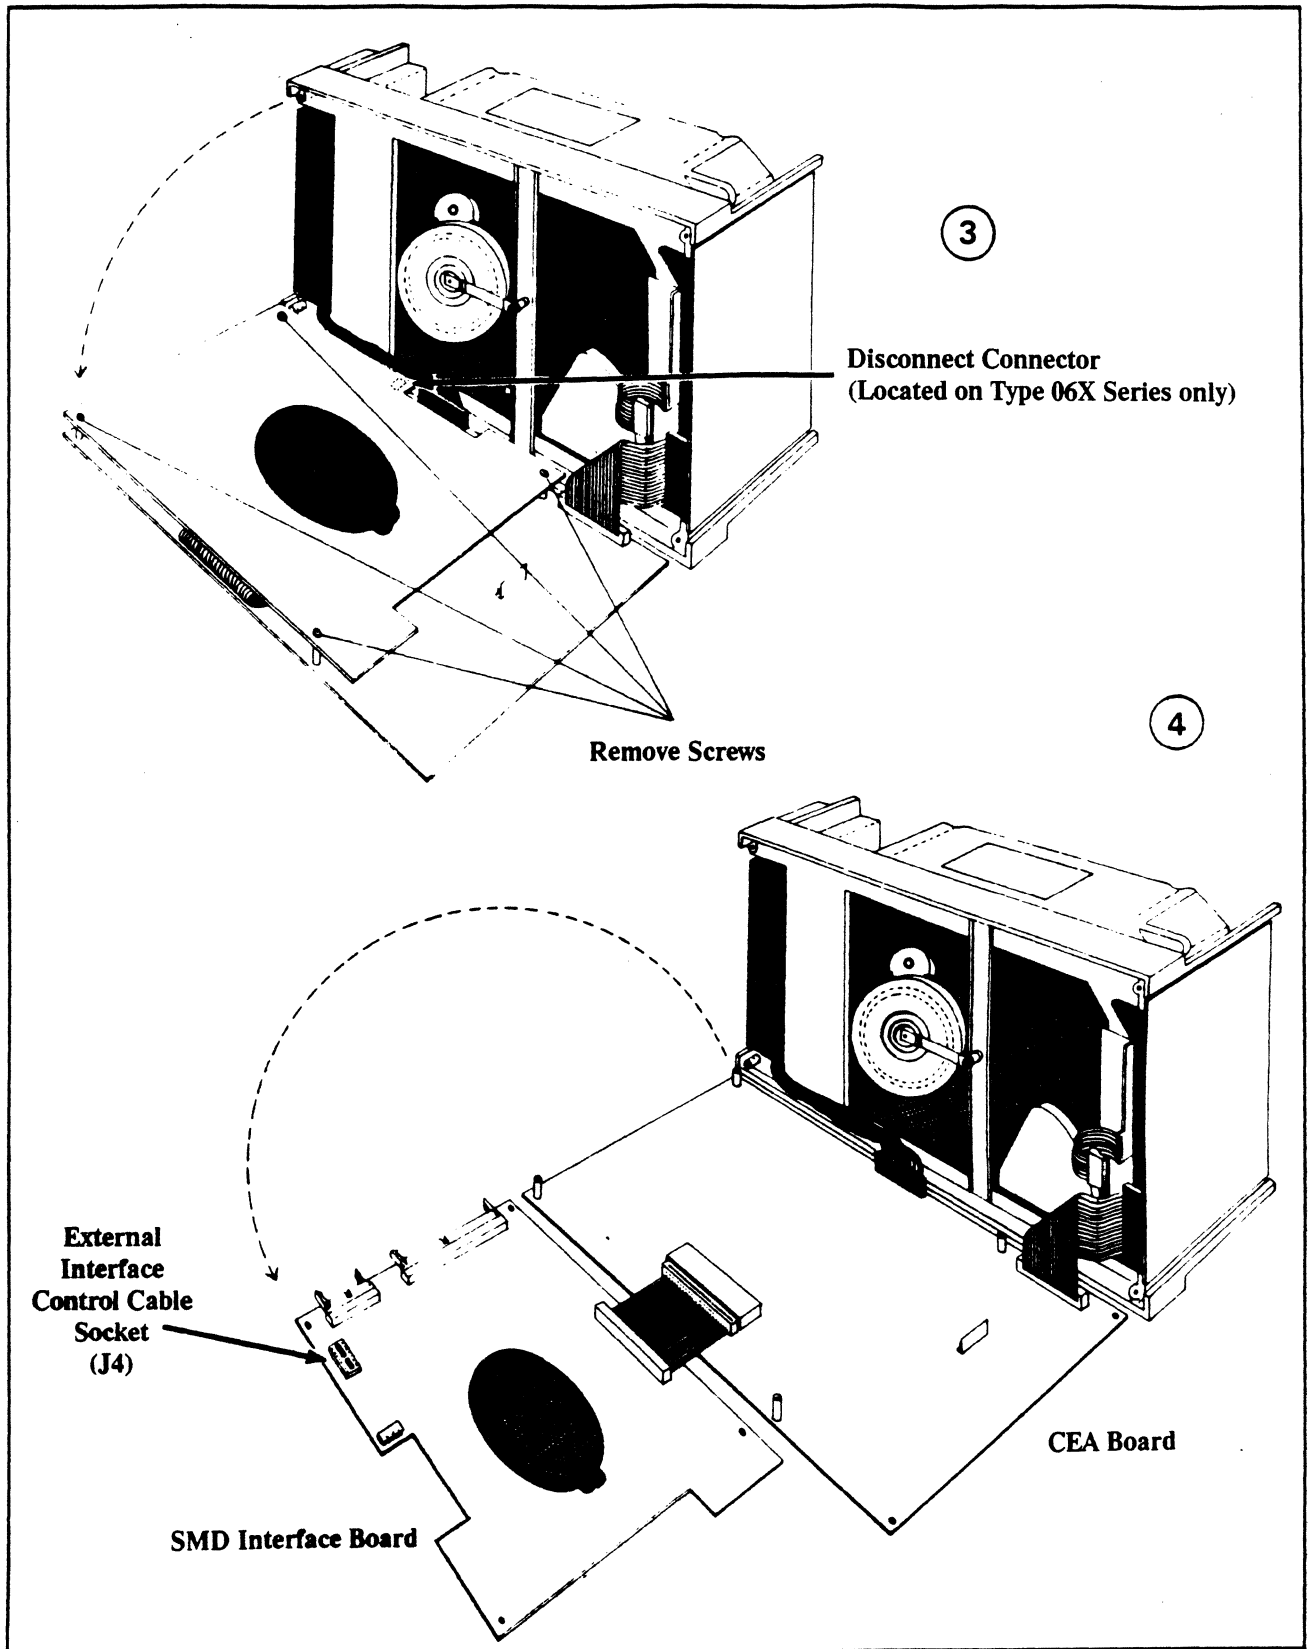

Figure 17A
- (d) Fold down the CEA Board next to the drive frame as shown in **Figure 17A**.
- (a) Follow the instructions in the previous section of this manual to access J4 on the SMD Interface Board. See **Figure 17A** for the location of socket J4 on the SMD Interface Board.